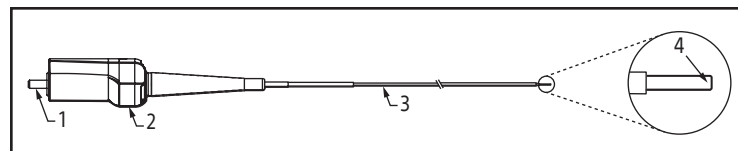
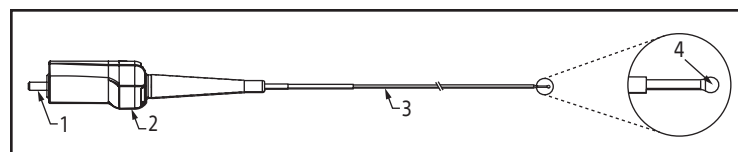

Figure 1. Flexiva Pulse ID laser fiber
Figure 2. Flexiva Pulse ID TracTip laser fiber
4. Distal Output Tip (Flat Tip (Fig. 1) or TracTip (Fig. 2))